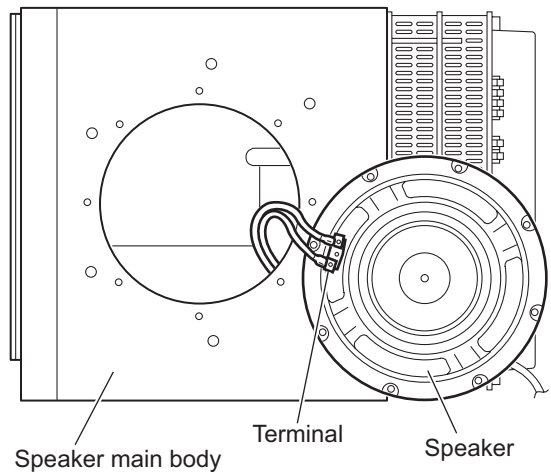

Fig.15
- (2) Take out the speaker from the speaker main body. (See Fig.15.)
- (3) Disconnect the wires from the terminal of the speaker. (See Fig.15.)